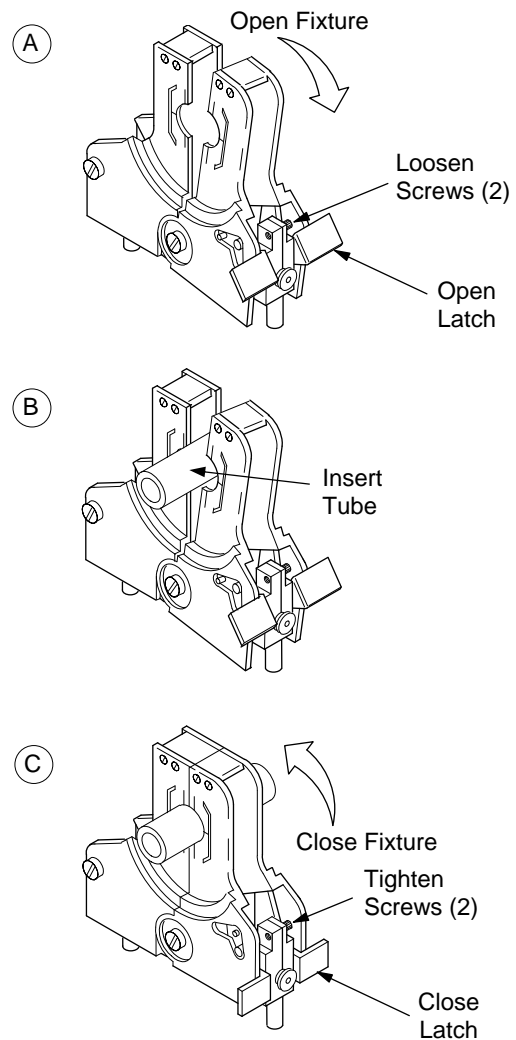

*Figure 17 Aligning the Tubing in the Series 4 Micro Weld Head Fixture*
1. Using the micro fixture tool, place the latch in the open position then open the fixture. See Figure 17(A).
2. Loosen the two alignment screws. See Figure 17(A).
3. Insert the tubing. See Figure 17(B).
4. Close the fixture and latch and then align the tubing. See Figure 17(C).
5. Tighten the two alignment screws. See Figure 17(C).